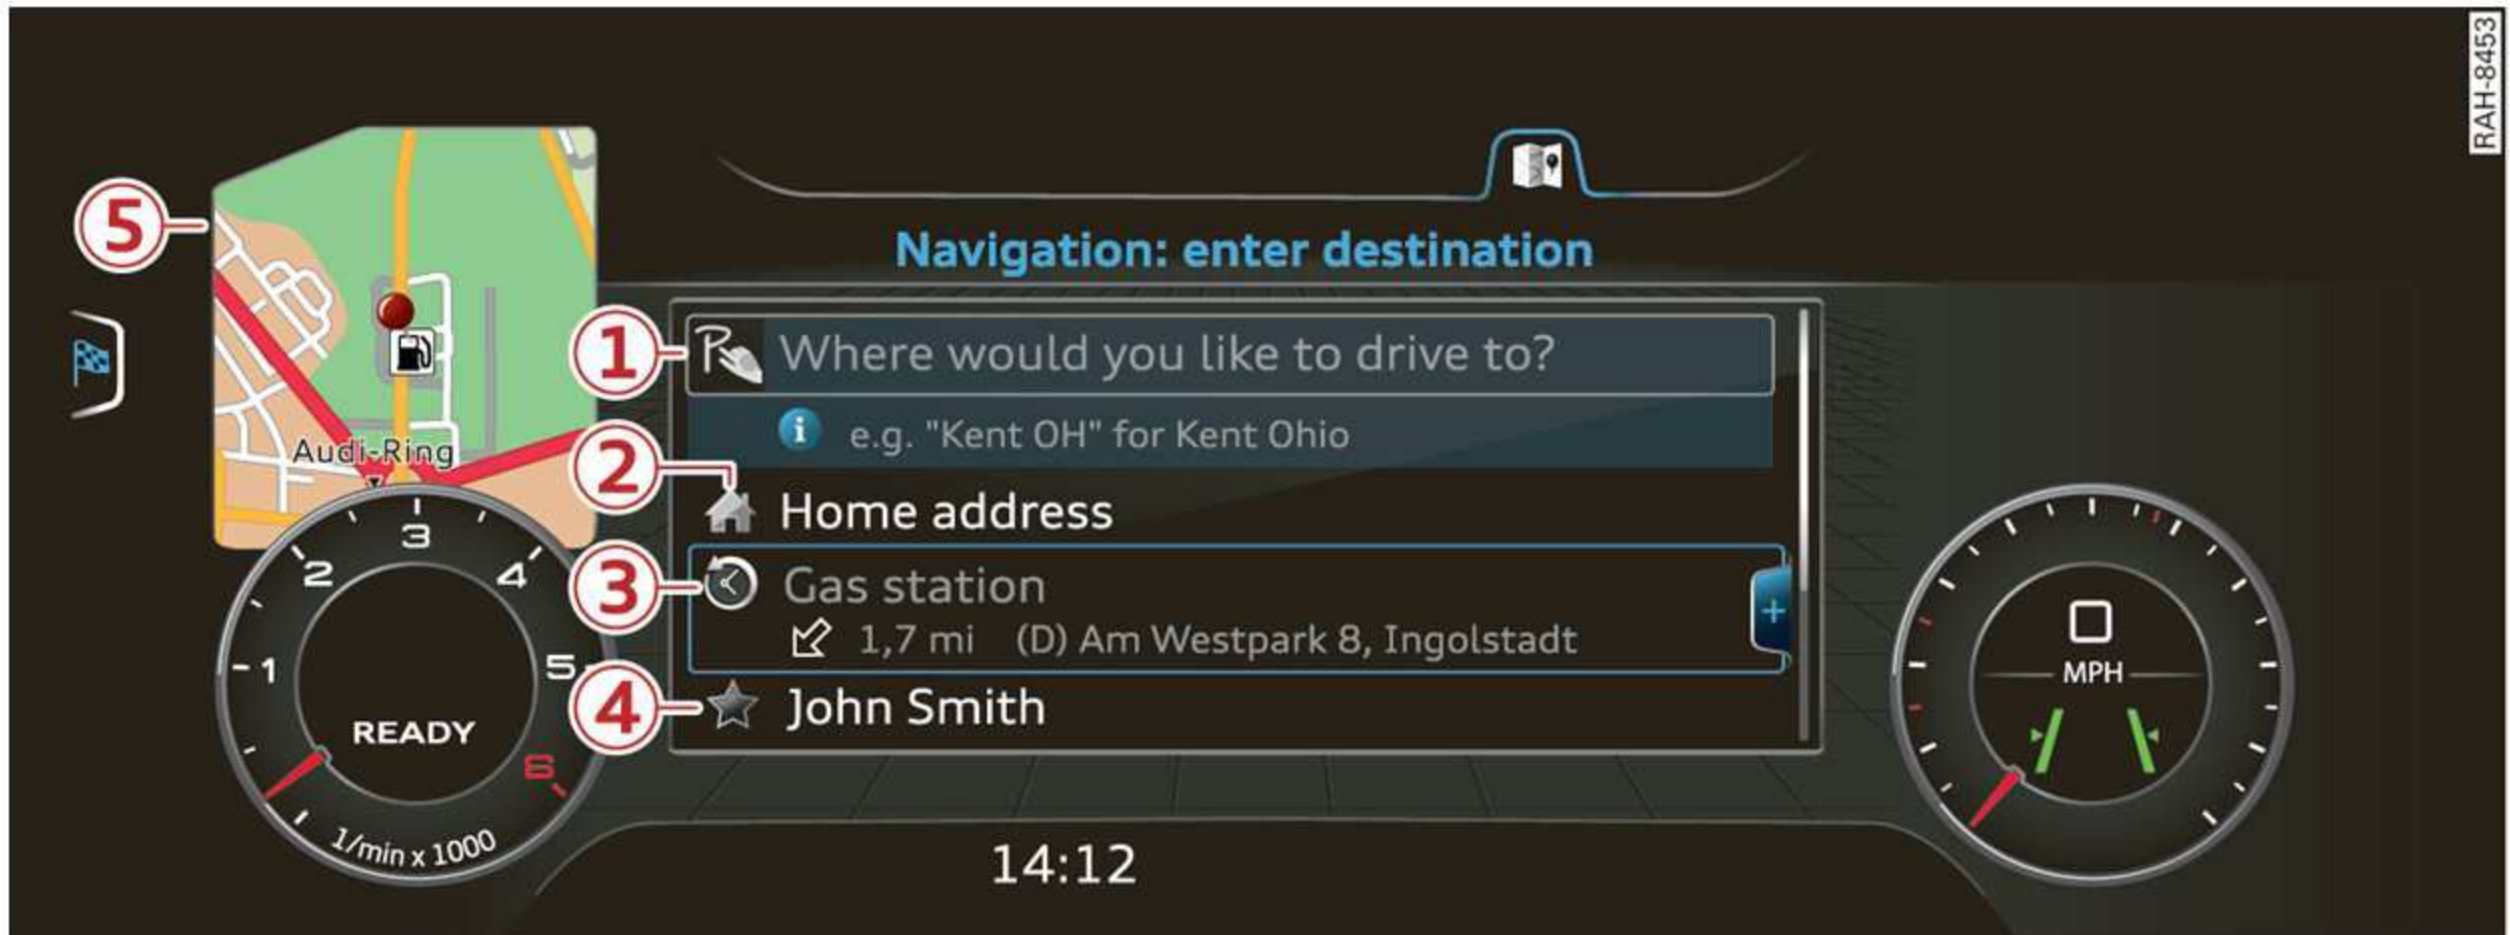

Fig. 118 Diagram: Enter destination menu
The **Enter destination** menu is displayed after opening navigation ⇒ *fig. 118*. The following information can be displayed in the Infotainment system display:
- ① Input field for free text search ⇒ *page 133*
- ② Home address ⇒ *page 134*
- ③ Last destinations ⇒ *page 133*
- ④ Stored favorites ⇒ *page 134*
As soon as you select an entry from the list (depending on the vehicle equipment), the corresponding destination displays as a map preview* ⑤ ⇒ *fig. 118*.
- ▶ Press the **NAV/MAP** button repeatedly until the **Enter destination** menu is displayed ⇒ *page 132, fig. 118*.
- Select the right control button > **Country/state selection** in the input field  ⇒ *page 132, fig. 118*.
Your last destinations will be listed directly in the **Enter destination** menu and are marked with the symbol  ⇒ *page 132, fig. 118*.
⇒ *page 132, fig. 118.*
Your **Home address** is shown directly in the **Enter destination** menu **2** ⇒ *page 132, fig. 118.*
- Enter one or more letters into the free text search input field. The favorites that are found are shown in the Infotainment system display and marked with the symbol **4** ⇒ *page 132, fig. 118.*
- ▶ Press the **NAV/MAP** button repeatedly until the **Enter destination** menu is displayed ⇒ page 132, fig. 118.